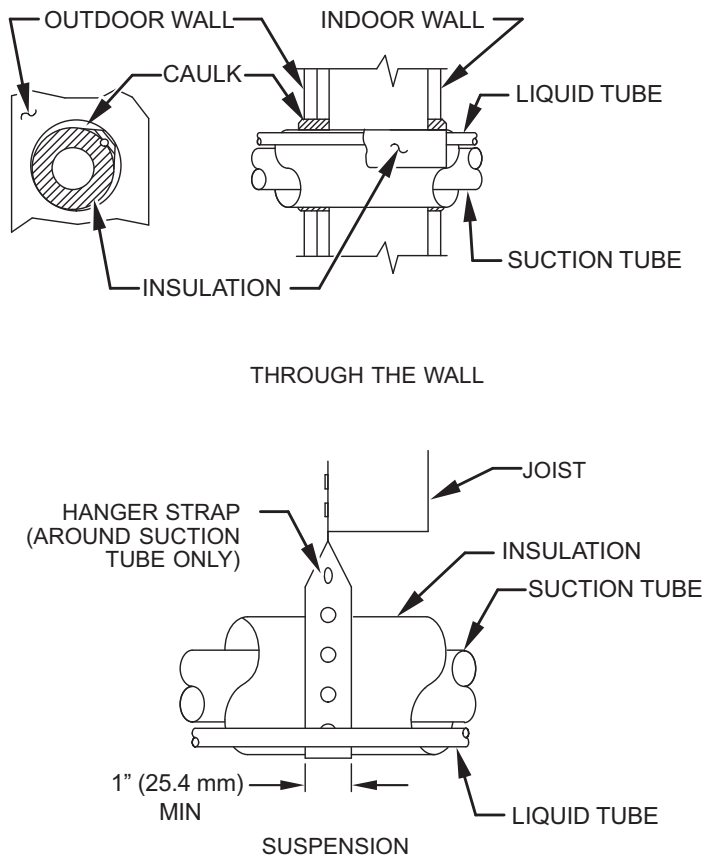

Fig. 1 – Connecting Tubing Installation
6. When passing refrigerant tubes through the wall, seal opening with RTV or other pliable silicon-based caulk (see Fig. 1).
8. Do not suspend refrigerant tubing from joists and studs with a rigid wire or strap which comes in direct contact with tubing (see Fig. 1).
10. When necessary, use hanger straps which are 1 in. wide and conform to shape of tubing insulation. (See Fig. 1)